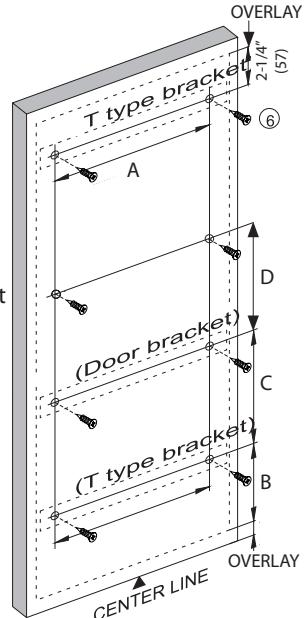

fig. 9
11) To calculate overlay measure the door and then measure the cabinet opening. Overlay = door width minus cabinet opening divided by 2. For example; the door is 12 1/2" wide, the opening is 12". $12\frac{1}{2} - 12 = \frac{1}{2}$ ", then divide by 2. The overlay is 1/4". Refer to figure 9.
13) At this point, lay your door on a flat surface and mark 6 or 8 pilot hole locations based on figure 9. Dimension "B" for face frame cabinet is 4 1/4" [108mm]. See the table for dimensions "C" and "D". Use an 1/8" drill bit pre-drill pilot holes.